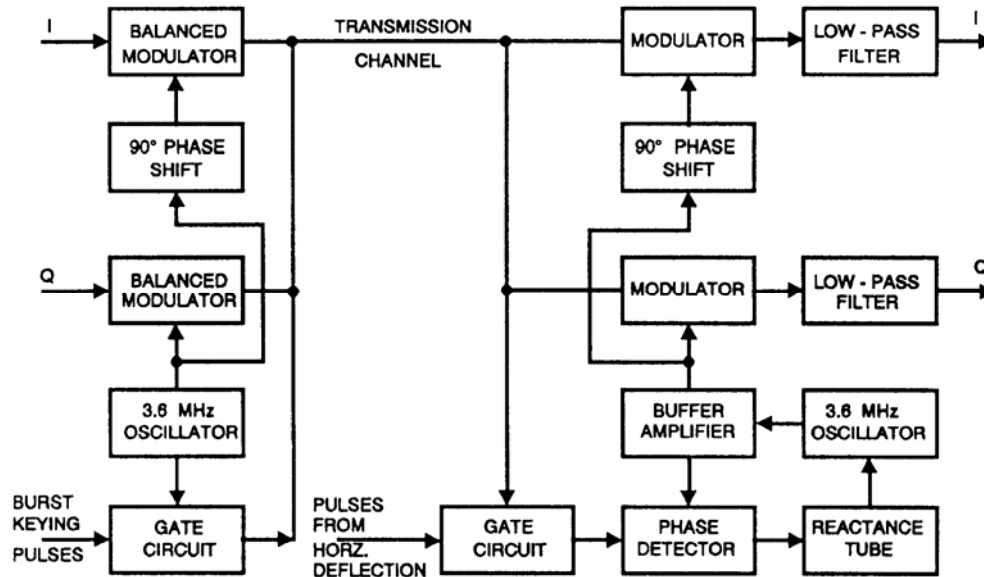

Figure S-28. Two-Phase Modulation Block Diagram
(2) Since the Y, I, and Q signals are each a different bandwidth, and since their envelopes must have a specific placement in time with regard to each other, the I and Y signals are sent through delay networks so that all three signals have the proper time placement when applied to the mixer (adder) section.
g. Two-Phase Modulation (Generation of the Color Signal). Refer to Figure S-28, where the I and Q output of the filter section feeds two doubly balanced modulators where two-phase modulation takes place. Two-phase modulation is a technique by which the I and Q signals can be combined into a two-variable signal for transmission over a single channel. This is accomplished by adding sidebands obtained through modulation of two 3.58 MHz carriers separated in phase by 90 degrees. The resultant waveform is the vector sum of the components. The doubly balanced modulators suppress the two carriers, which are derived from the same oscillator. Thus, only the two amplitude-modulated (AM) sidebands, 90 degrees out of phase, are transmitted. At the receiving end of the system, the I and Q signals are recovered by heterodyning the two-phase wave against two locally generated carriers of the same frequency (but with a 90-degree phase separation) and applying the resultant signals through low-pass filters to other matrix circuits in the receiver.